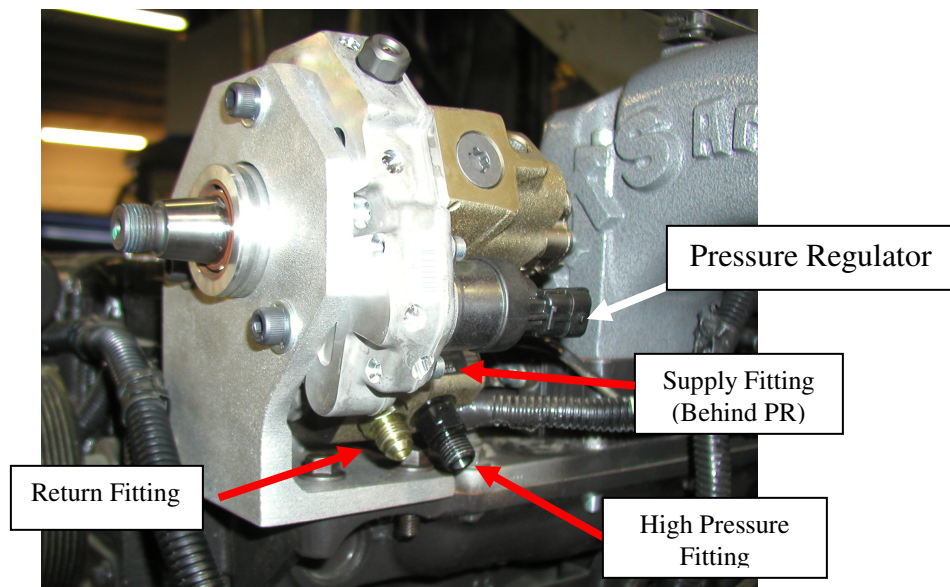

Figure 2: Pump Orientation
8. Install pump on the bracket with three 8mm hex drive socket cap bolts, three 8mm washers and three 8mm flange nuts. Orient the pump so the fittings point down and out as shown in Figure 2 below.